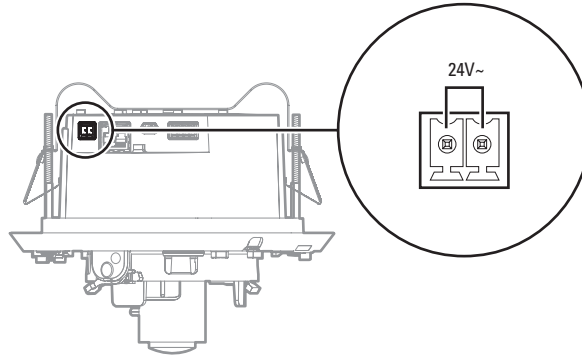

Figure 15. 24 VAC Connector
1. Connect the 24 VAC wires to the supplied 2-pin connector (refer to Figure 15).